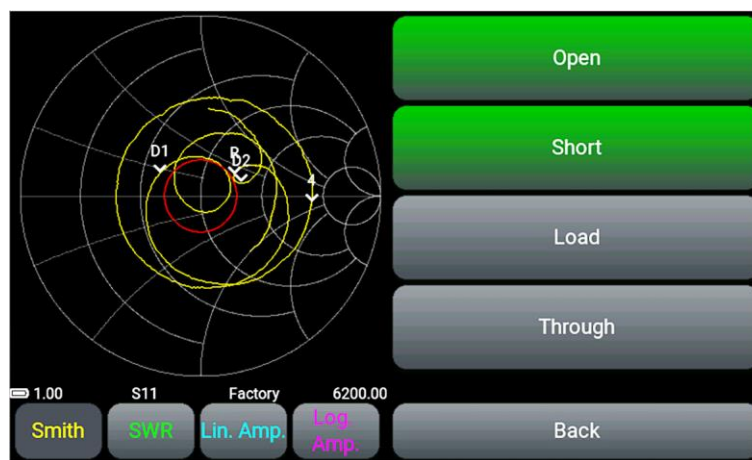

Figure 9.9 - Device calibration process
9.4.1. Enter the **Calibration** section of the main menu of the device (Figure 9.9).